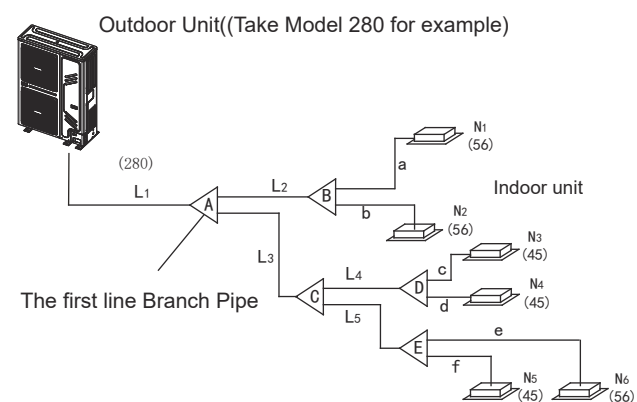

Fig. 4-6
- Main pipe (Please refer to Fig.4-6 and Table 4-4)
In Fig.4-6, the main pipe L1, the outdoor unit capacity is 28kW, and check the Table 4-4 to get the size of gas pipe/liquid pipe is $\Phi 22.2 / \Phi 9.5$, and also the total equivalent length of liquid side and gas side pipes is $> 90m$, then check the Table 4-4 to get the size of gas pipe/liquid pipe is $\Phi 25.4 / \Phi 12.7$, and according to the maximum value principle, it should apply the $\Phi 25.4 / \Phi 12.7$.